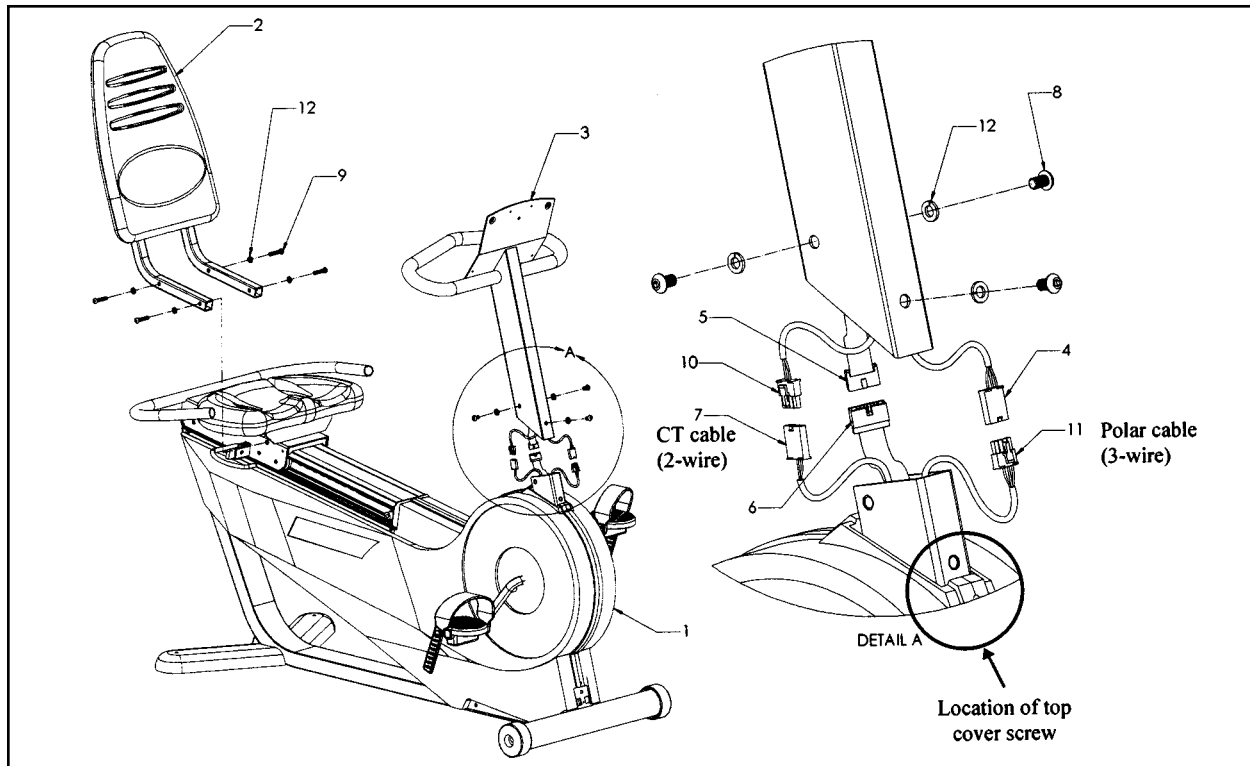

Figure 1
Please refer to Figure 1 (shown below) for "Attach Seat Back Assembly" and "Attach the Display Upright" sections listed on the next page.
As shown in Figure 1 on the previous page, attach the seat back assembly (2) to the seat shuttle with four 5/16 x 1-1/2 button-head cap screws (9) and lock washers (12), using a 3/16" hex wrench. If you have difficulty aligning the screws, loosen the four button-head cap screws on the back of the seat. Attach seat supports to the seat shuttle and fully tighten, then tighten screws on the seat back.
All of the cable connections are shown in detail A of Figure 1. Connect the two ends of the ribbon cable (5 and 6) which emerge from the cycle base and the display upright (3). Connect the ends of the Polar cable (4 and 11) or the CardioTouch cable (7 and 10), if applicable. To help support the display upright, move the seat forward and rest the handlebar of the upright on the seat.